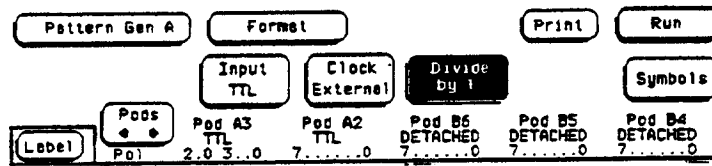

Figure 3-18. Divide By 1 Field
- g. Touch Divide field and set to By 1. See figure 3-18.